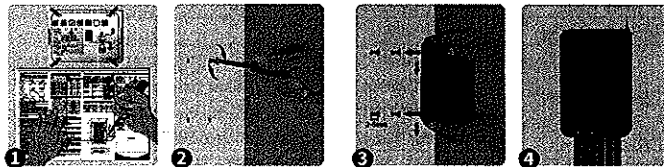

Figure 2-2 Installation Guide
Connect the system in the order of ① battery ② PV array ③ load in accordance with Figure 2-2, "Schematic Wiring Diagram" and disconnect the system in the reverse order ③②①.